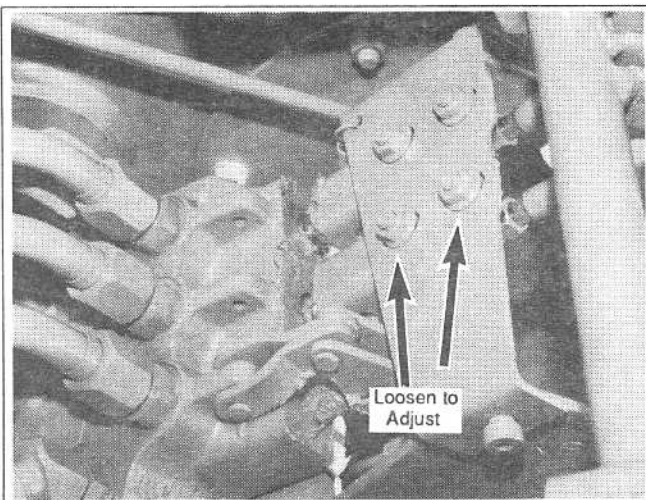

Figure 1-6
1. Remove the floor plate. Loosen two (2) 5/16 inch hex nuts on each spool catch. Allow spool catches to seat completely on spool linkage roll pins. (See figure 1-6)